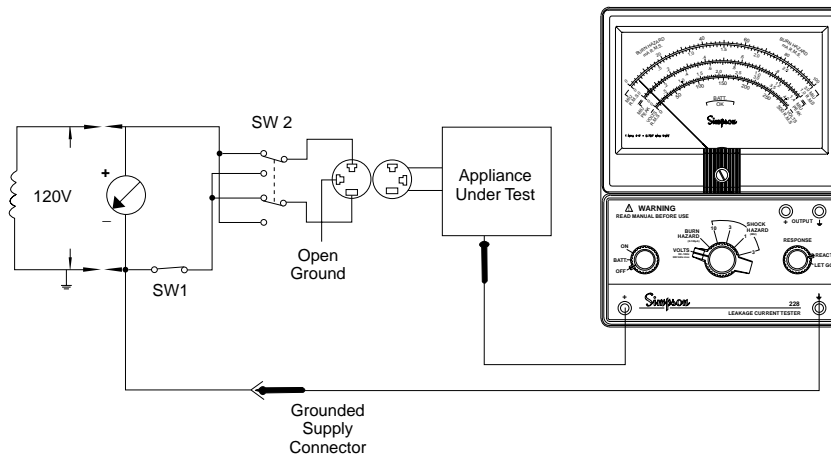

Figure 4. Typical Test Setup
**NOTE:** The following is based on set-up and test procedures from the applicable standards document (or from the equipment manufacturer) for correct main connection, detailed test procedures and leakage current limits. Figure 4, Page 13, shows a typical test setup. All items other than the 228 and its accessories must be provided by the user.
3. Connect the Instrument and equipment under test. Figure 4, above, shows a typical test setup. Do not apply power.
1. Use SW2 switch (see figure 4, page 13) to reverse the hot and neutral. Do not close SW1 to activate the unit under test. Repeat Voltage, Burn Hazard, and Shock Hazard tests. After completing tests, return SW2 to original position.